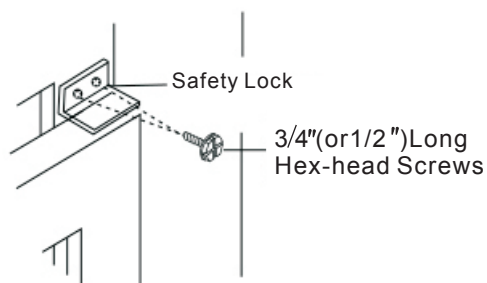

Fig.19
2. Attach right angle safety lock (Fig. 19).